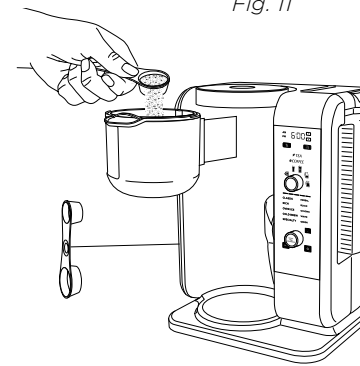

Fig. 12
- 3 Use the Ninja Smart Scoop™ and follow the measurements in the chart to fill the brew basket (Fig. 12). These measurements are based on level scoops—adjust to your preferred taste. We suggest using a medium-sized grind if grinding whole beans.
- 3 Use the Ninja Smart Scoop™ and follow the recommended measurements in the chart to fill the brew basket, adjusting to your preferred taste (Fig. 12).